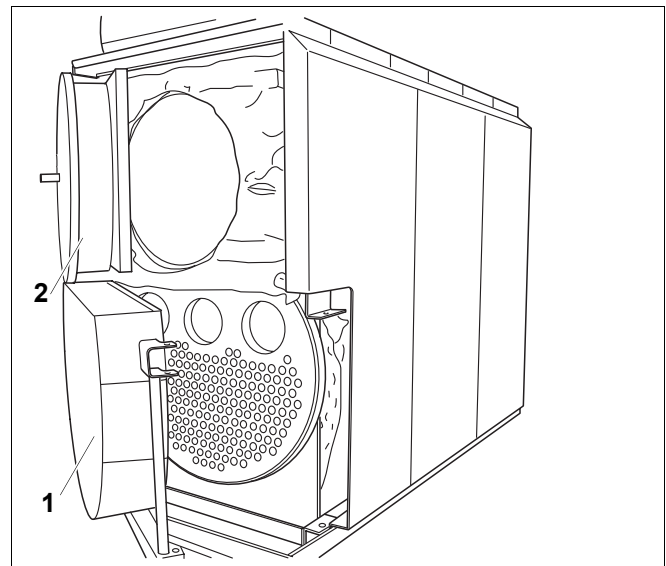

Fig. 29 Open the boiler door
Ensure that the hinge bolts (Fig. 29, **Item. 1 and 2**) are in the boiler door and in the reversing door, before opening the doors.
- Loosen the bolts on the reversing door (Fig. 29, **Item. 1**) and pivot the reversing door aside.
- Remove the hexagon bolts from the boiler door (Fig. 29, **Item. 2**) and open the door.